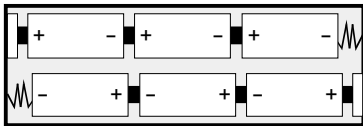

Fig.1
- Prepare six pieces of DC 1.5 V (CM) batteries.
- Open the cover in the back of the scale and insert the batteries as shown in Fig.1.